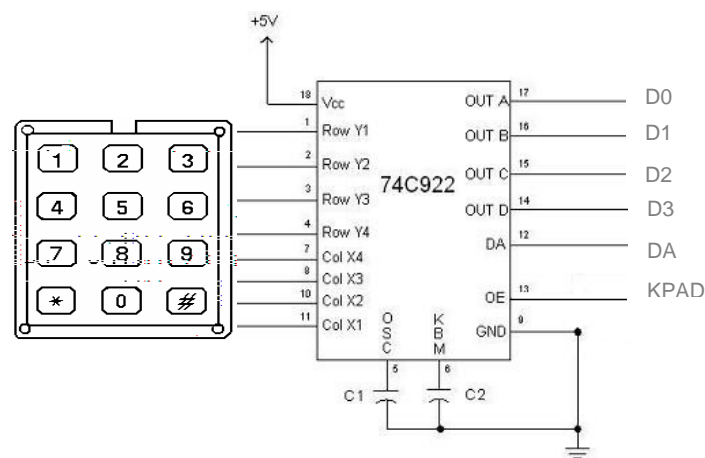

Figure 3 : Connection between 4 x 3 Matrix Keypad with 74C922
The usual way to interface a keypad to a microprocessor is by connecting input/output (I/O) port bits to row and column connections on the keypad. The keypad is wired in a matrix arrangement so that when a key is pressed one row is shorted to one column. It's relatively easy to write a routine to scan the keypad, detect key presses, and determine which key was pressed. Another alternative is to use the 74C922 keypad encoder chip. This device accepts input from a 16-keypad, performs all of the required scanning and debouncing, and outputs a "data available" (DA) bit and 4 output bits representing the number of the key pressed from 0 to 15. Figure 3 show the connections between 4 x 3 matrix keypad with 74C922.